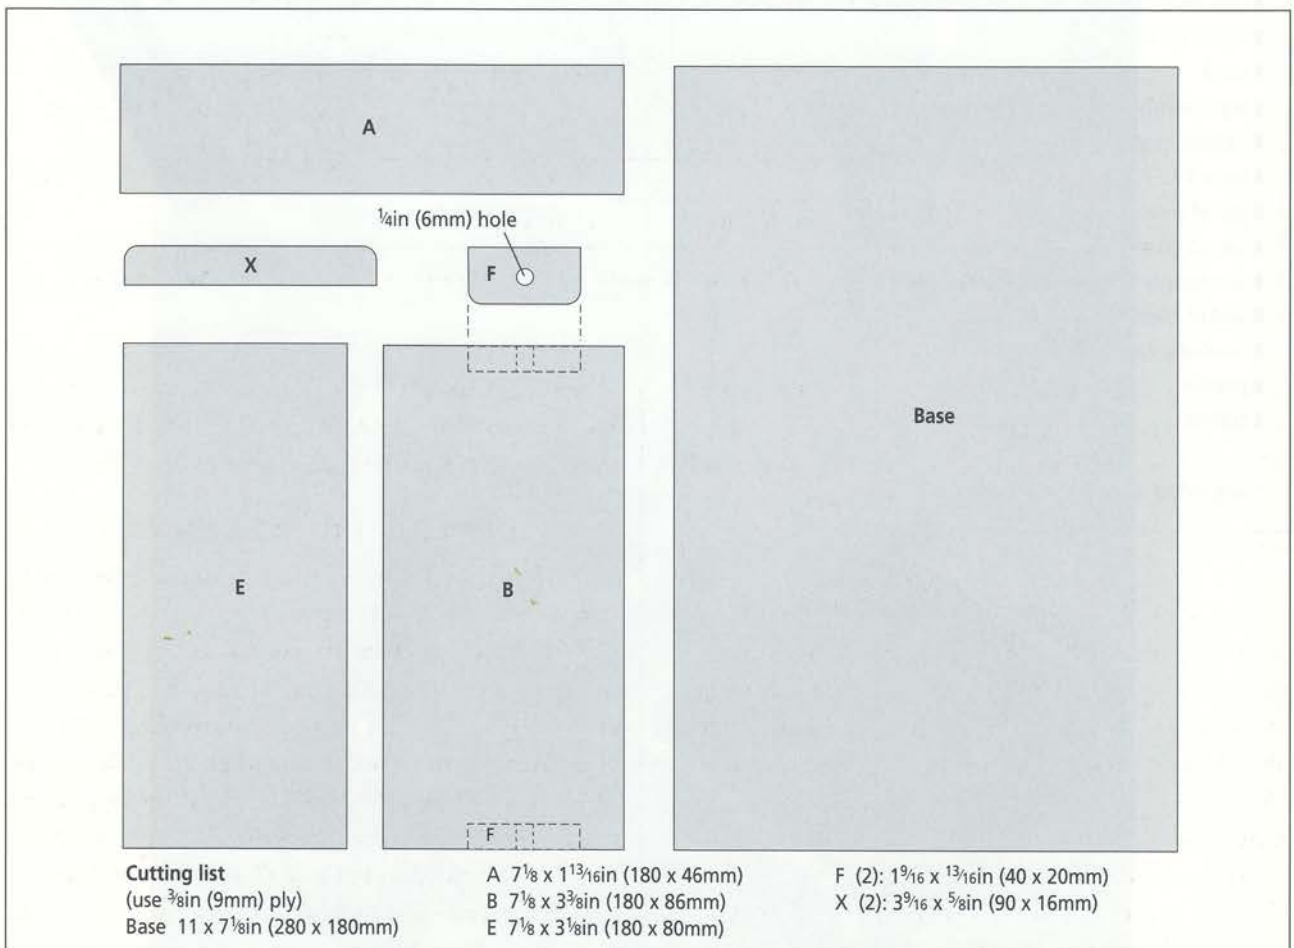

Fig 12.2 The dimensions of the base, A, B, E, F and X. Note the $\frac{1}{4}$ in (6mm) hole in F.
The dimensions of the remaining parts (see Fig 12.2 and 12.3) can easily be marked out on the plywood using a straight edge and a square. Label each part lightly with a pencil before cutting.
Glue the two pivot brackets (F) in position, one on each end of part B (see Fig 12.7). The positions of F on B are shown on the plan at Fig 12.2. It is important to keep these two brackets parallel because they have to pivot freely on one of the metal rods. Once both parts F have been glued in position, place a metal rod through the holes in parts F until the glue has thoroughly dry. Fig 12.8 shows how B will fit into the assembly via the metal rod that passes through the holes in both brackets (F) and the sides.